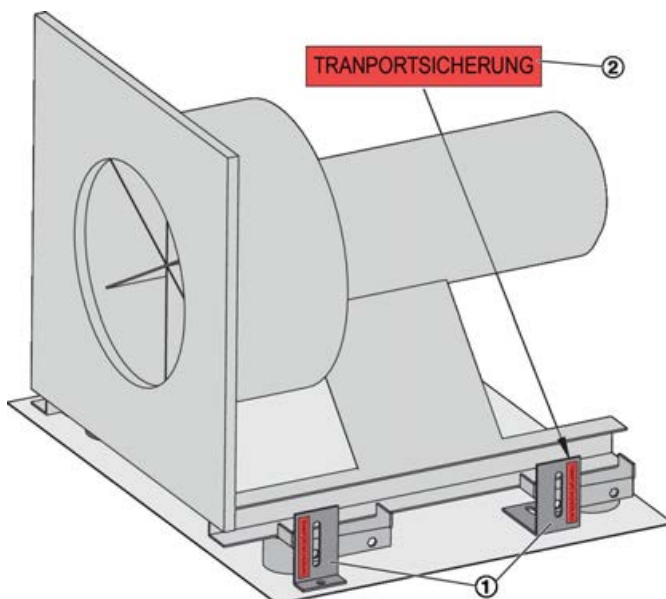

Fig. 11: Transport protection brackets
1. ▶ Remove the brackets (Fig. 11 /1) that are marked with a red sticker (Fig. 11 /2).